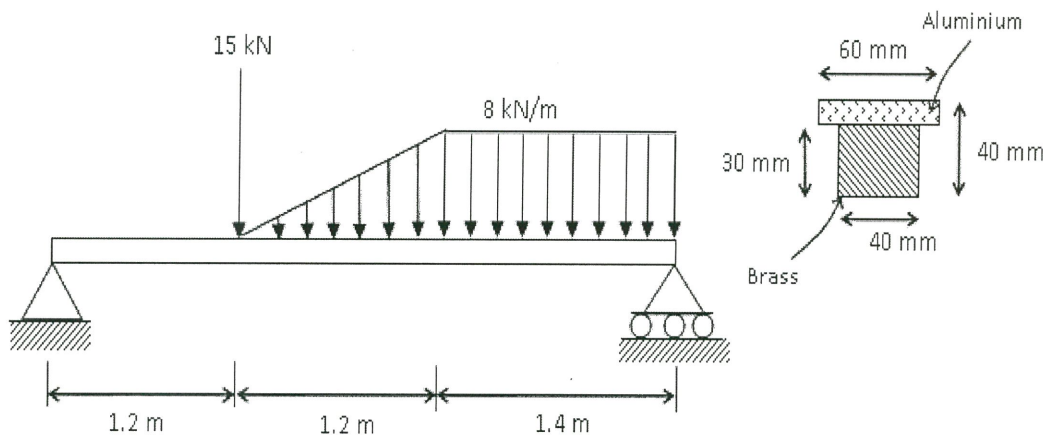

Figure Q3
- Q3.** A composite beam comprised of brass and aluminium is designed to support loadings as demonstrated in **Figure Q3**. The composite beam is formed by bonding together a brass ($E_B = 100$ GPa) bar and aluminium ($E_A = 70$ GPa) bar.